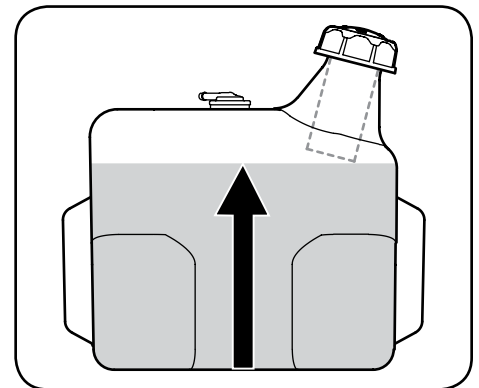

Figure 2-10
- Fill the fuel tank with gasoline. Use only clean, fresh (no more than 30 days old), unleaded gasoline. Fill tank to no more than 1/2" below bottom of filler neck to allow space for fuel expansion. See Figure 2-10.
filler neck to allow space for fuel expansion. See Figure 2-10.